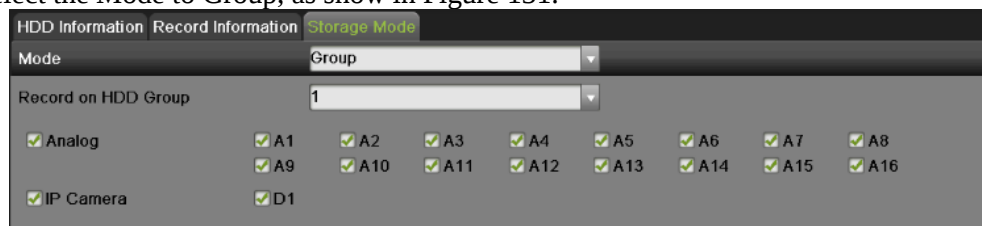

Figure 131 Group Mode Settings Menu
3. Select the Mode to Group, as show in Figure 131.